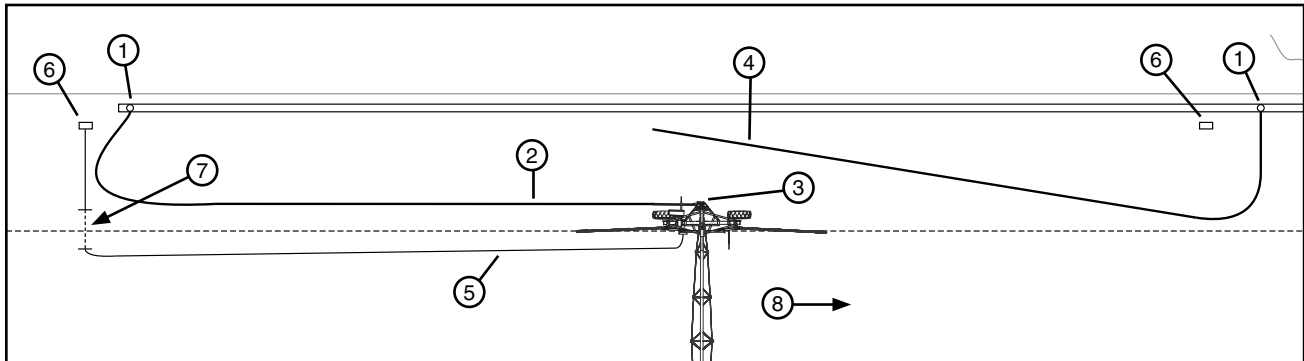

Figure 44-1 1. Shut Off Valve 2. First Hose 3. Swivel Inlet 4. Second hose 5. Electric Cord 6. Power Pedestal 7. Buried Cable 8. Direction of Travel
- When the machine stops at the end of field/hose stop post, Close the water shut off valve for the first hose. See figure 44-1.